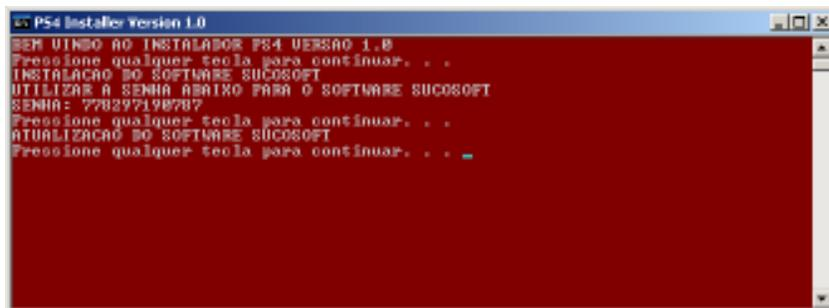

Figure 101 – Update SUCOSOFT
Step 9: Update SUCOSOFT. Press “NEXT” as shown in Figure 101.